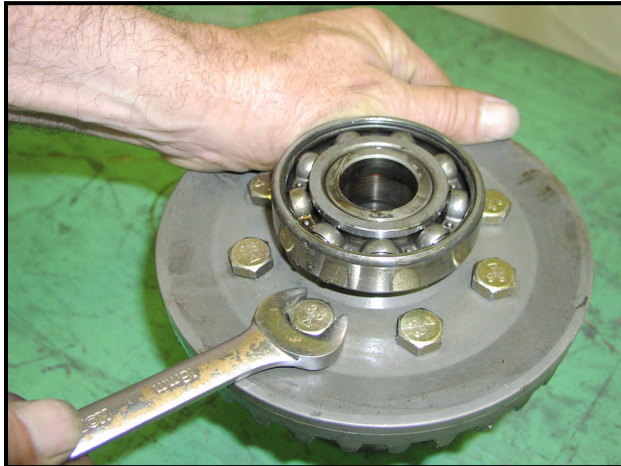

Figure 10-11 Ring Gear Bolts
3. Place the assembly with the ring gear and bearing up on a solid flat surface (**Figure 10-11, Page 10-6**).
1. Place the clutch carrier bearing down against a clean flat surface with ring gear and bearing up (**Figure 10-11, Page 10-6**).